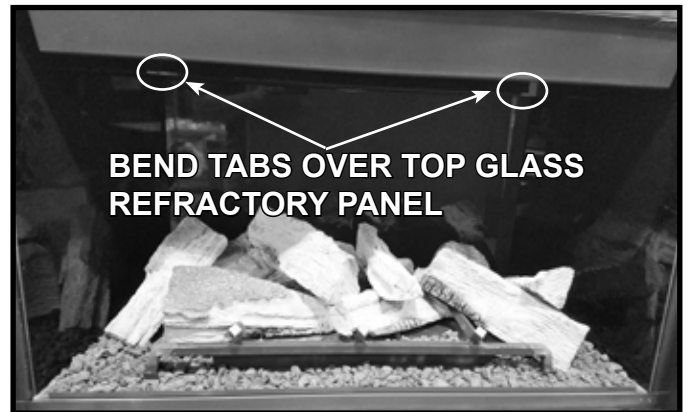

Figure 11. Glass Refractory Installed
13. Place center glass panel on the rear exhaust baffle. The glass panel will be held in place by the bottom tabs bent up in Step 12. Bend tabs on the top over the glass panel to secure it in place. See Figure 10 and Figure 11.